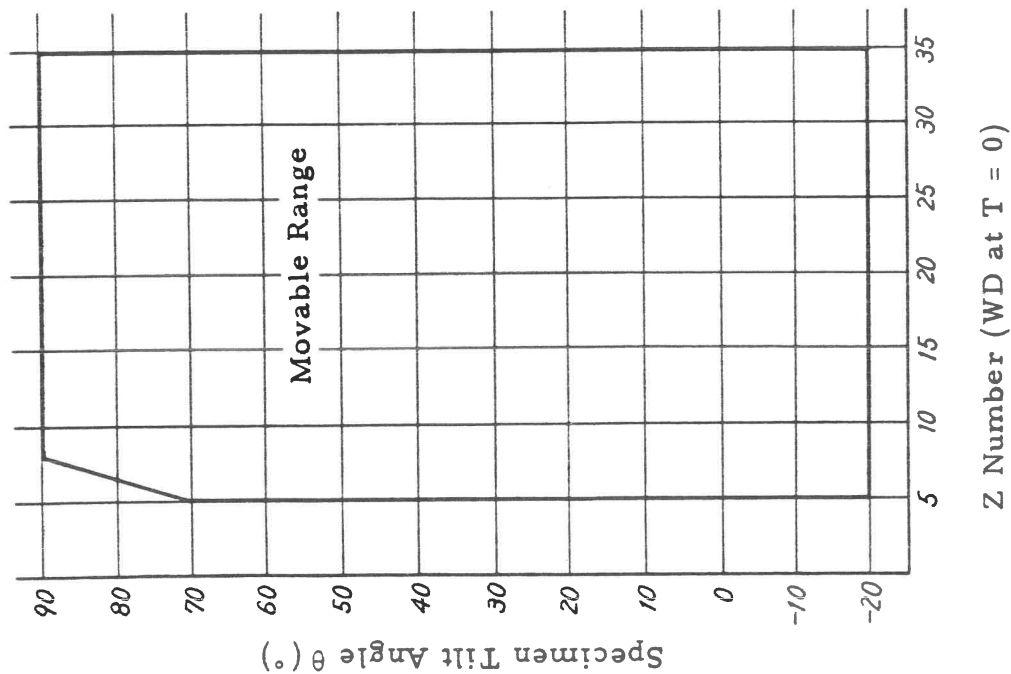

Fig. 2-8 Relationship between Z Number and Specimen Tilt Angle on 15 dia. Specimen Stub
Figs. 2-8 through 2-11 illustrate specimen sizes, scale Z number* on Z displacement knob, and movable ranges in function of specimen tilt angle θ .
- (ii) Make selection from among Figs. 2-8 through 2-11 according to the particular specimen size.